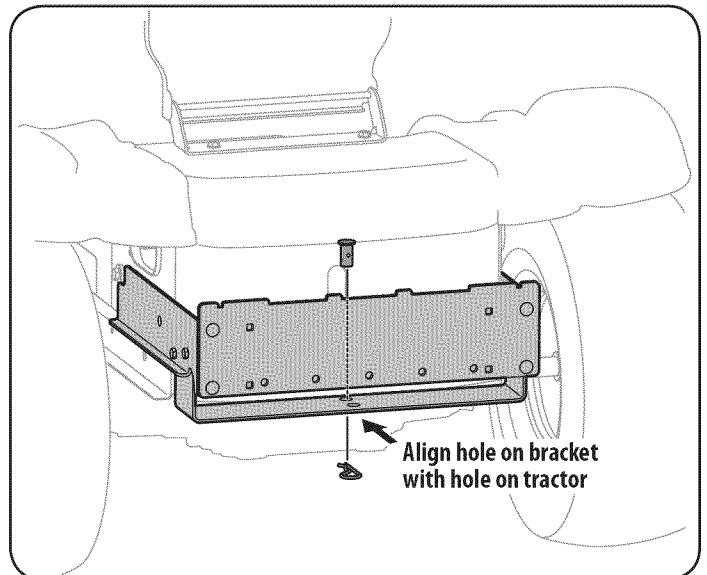

Figure 7
2. Install the clevis pin (711-0309A) from hardware pack 689-00097 into the tractor's hitch and the assembly's hitch support and secure with a hairpin clip (710117) in the top hole (closest to the head of the pin). See Fig. 7.
NOTE: The clevis pin can be fed down through the hitch support and secured underneath with the hairpin clip, as seen in Fig. 7, or it may be easier to feed the clevis pin up through the hitch plate hole and secure with the hairpin clip on the topside. The latter method may be preferred since it can be easier to insert the hairpin clip. Either way will work; the decision should be based on operator preference.